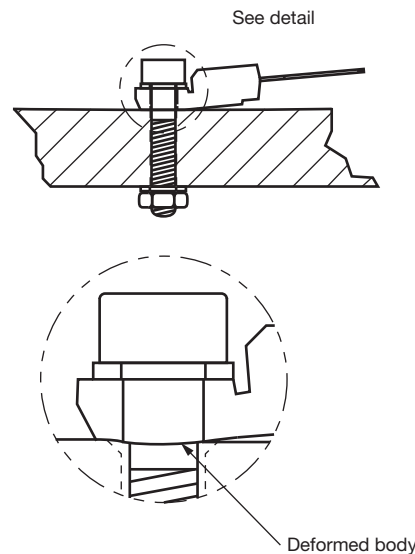

Fig. 2
- When drilled mounting holes are used, surface clean up to remove burrs is essential. To prevent body deformation, a large countersink must be avoided or reduced to the smallest size possible (see Fig. 2)